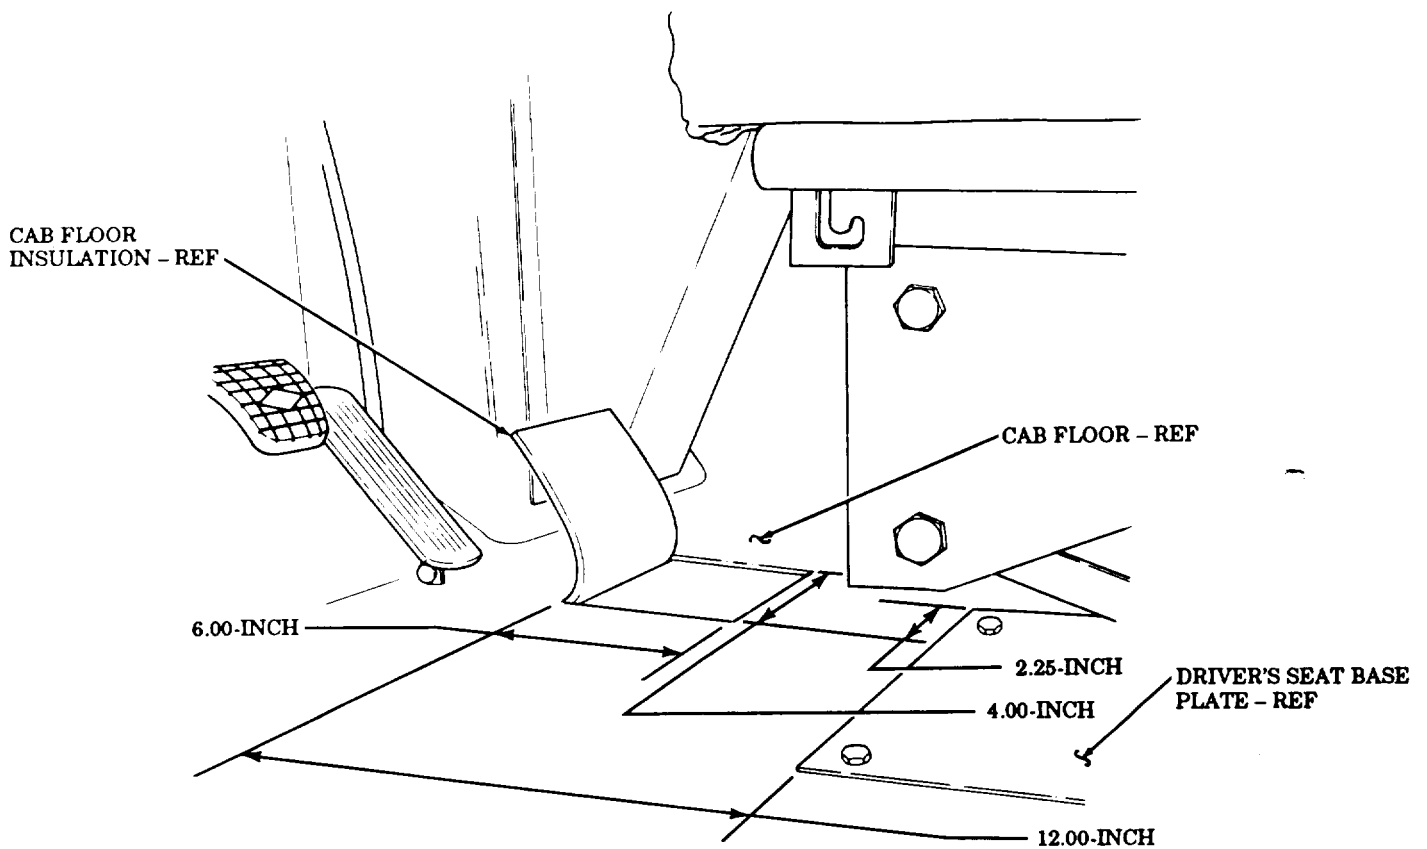

FIGURE 4
- (9) Using driver's seat base plate as a reference, mark and cut a section of cab floor insulation from cab floor as shown in figure 4.